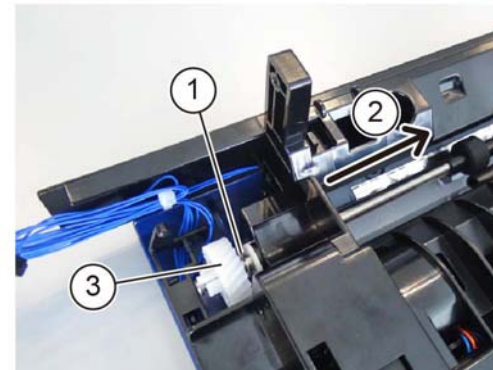

Figure 7 Helical gear removal
13. Remove the helical gear, **Figure 7**:
- a. Remove the E-clip (1).
- b. Move the exit roll in the direction of the arrow (2).
- c. Disengage the hook to remove the helical gear (3).